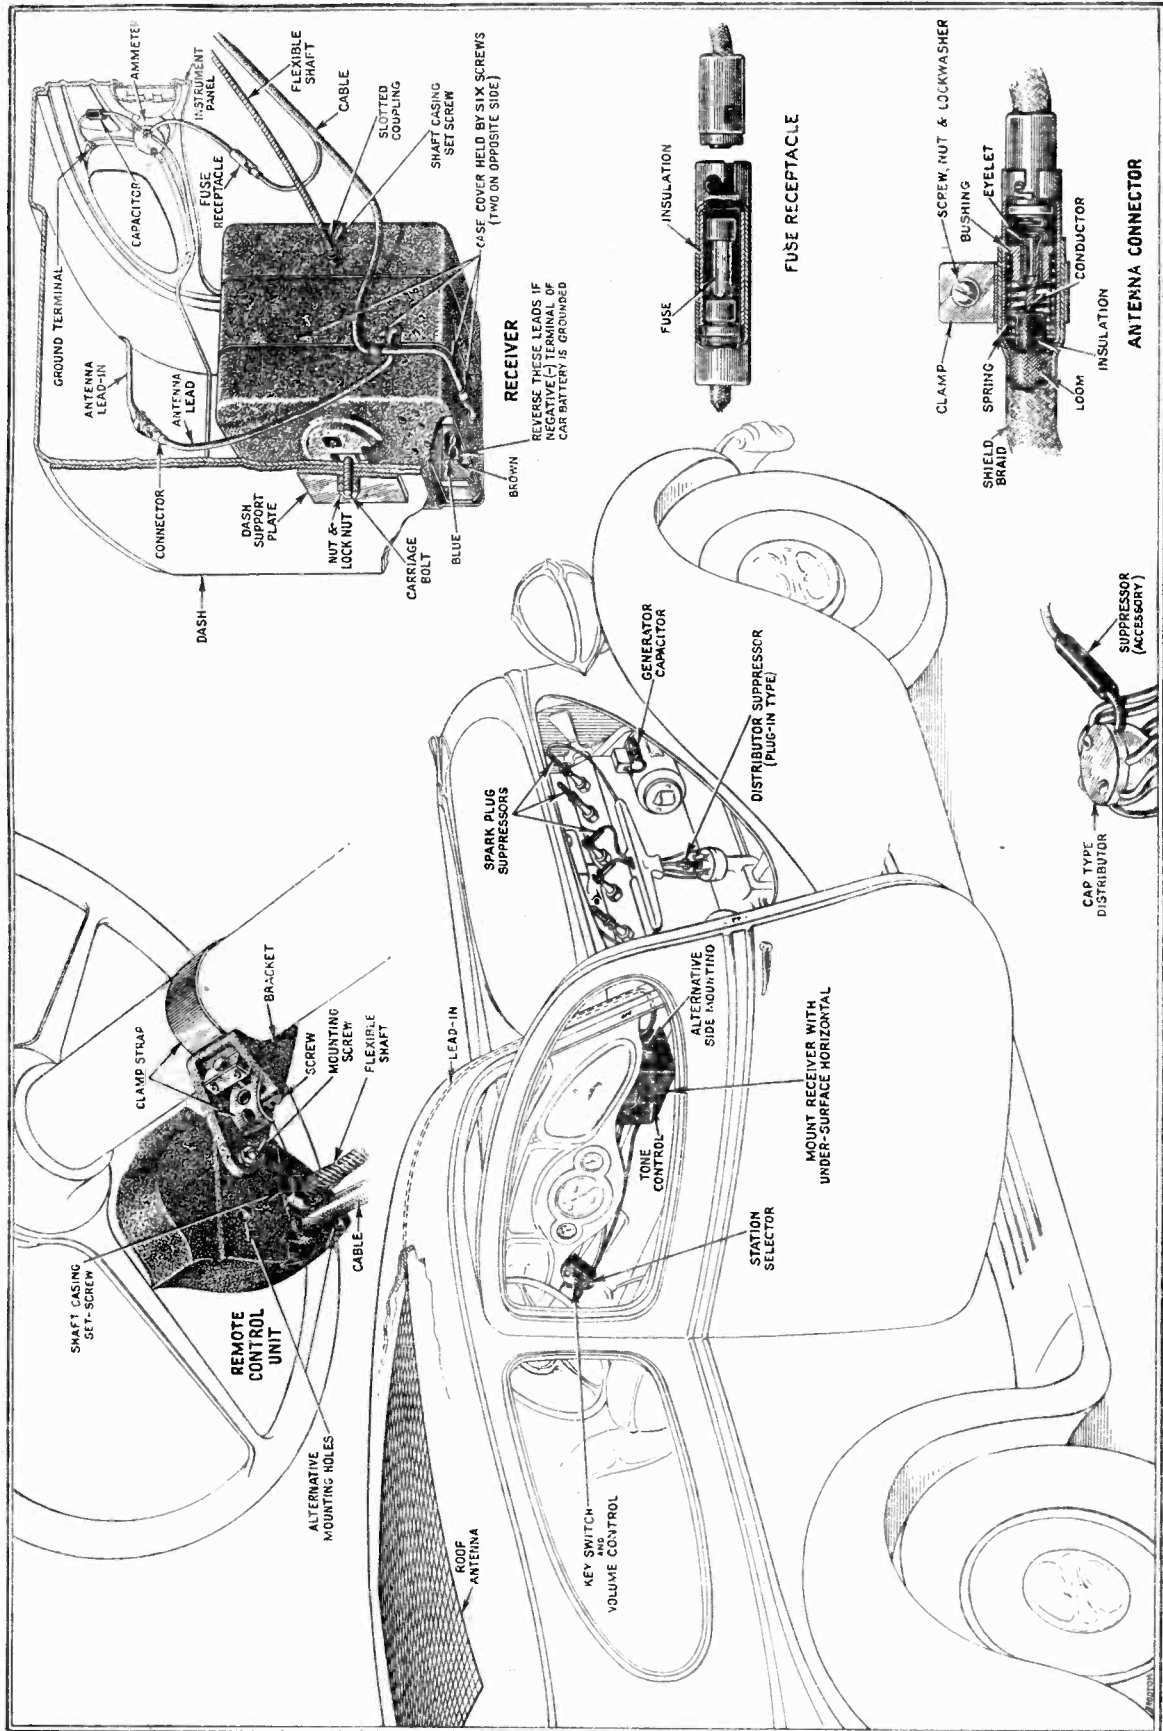

Figure 1
2. **CHECK POLARITY OF AUTOMOBILE STORAGE BATTERY SUPPLY.** If the negative (—) side is grounded to car frame, remove case cover and make changes to chassis connections shown in Figure 1. *Do not disturb these connections if positive (+) side is grounded.* (See details under "Mounting of Units"—page 5.) Replace case cover.
3. Determine most satisfactory mounting position (see details under "Location of Units"—page 4), spot mounting-bolt location and drill  $\frac{1}{2}$ " diameter hole. Insert bolt through dash and assemble support plate and nuts on engine side. Hang receiver over bolt head and tighten nuts. (See Figure 1 and details under "Mounting of Units"—page 5.)
4. Attach remote control unit to steering column by means of mounting bracket and strap. (See Figure 1 and details under "Mounting of Units"—page 5.)
5. Assemble flexible shaft to receiver and remote control unit. (See Figure 1 and details under "Mounting of Units"—page 6.) *Make sure that the set-screws are tightened firmly against both ends of shaft casing.*
7. Connect terminal at end of *black* lead from cable to binding-post of automobile ammeter (see Figure 1 and details under "Connections"—page 7). The ignition by-pass capacitor (equipped with two leads) should be installed at this time. (See Figure 1 and paragraph 4 under "Suppression of Ignition Interference"—page 7.)
8. Install spark-plug and distributor suppressors; also generator by-pass capacitor (see Figure 1 and paragraphs 1, 2 and 3 under "Suppression of Ignition Interference"—page 7).
**Receiver and Remote Control Units**—The arrangement of units shown in Figure 1 is recommended and will be found applicable to the majority of automobiles. Consideration should be given to the possibility of interference of the receiver with other equipment beneath the instrument panel or of the mounting bolt with apparatus on the engine side of the dash. By placing the receiver unit toward the right-hand side of the dash, the flexible shaft will be of correct length as furnished in practically all cases. This position, however, may be considered impractical because of its universal preference for heating devices, necessitating installation of the receiver unit either near the center or at the extreme left-hand side of the dash and the use of a shorter flexible shaft. In such cases, the shaft may be either short-
Details of mounting the various units are shown in Figure 1. The following procedures are recommended:
**Receiver Unit**—It is necessary first to determine the electrical polarity of the storage battery supply. This may be done most conveniently by making an examination of the battery connections and ascertaining which terminal is grounded (that is, connected to the frame of the car). The positive terminal is usually marked (+) and tends to form corrosion far more rapidly than the negative (—). If the positive terminal is grounded, no change in the electrical connections of the receiver unit will be required. However, if the opposite is true, the cover of the receiver unit case (held in place by six screws) must be removed and the two leads (equipped with spade terminals) located beneath the radio chassis as shown in Figure 1 must be reversed.
**Remote Control Unit**—In attaching the remote control unit to the steering column of the car, it will be advisable first to examine the detailed view (in Figure 1) showing the assembly of its mounting bracket. Four small holes are contained in the associated flexible strap at distances proper for use with steering columns of the most common diameters ( $1\frac{1}{2}$ ,  $1\frac{5}{8}$ ,  $1\frac{3}{4}$ ,  $1\frac{7}{8}$  inches), but the strap length will be found sufficient to permit the insertion of an additional hole if necessary to accommodate a 2 inch column. The proper hole may be determined by wrapping the clamp strap tightly around the column, inserting the machine screw furnished through that hole found to be nearest in alignment with the tapped hole in the clamp bracket. Three tapped holes are provided in the back of the remote control unit, permitting support of that unit either at the right- or left-hand side or above the steering column.
Refer to Figure 1 and make connections as follows: